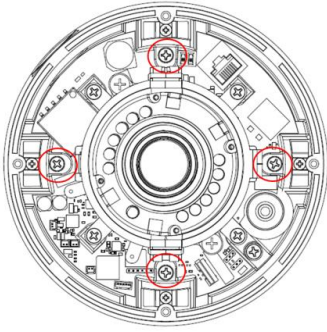

Figure 5
- Fasten securely four captive screws as shown in Figure 5.